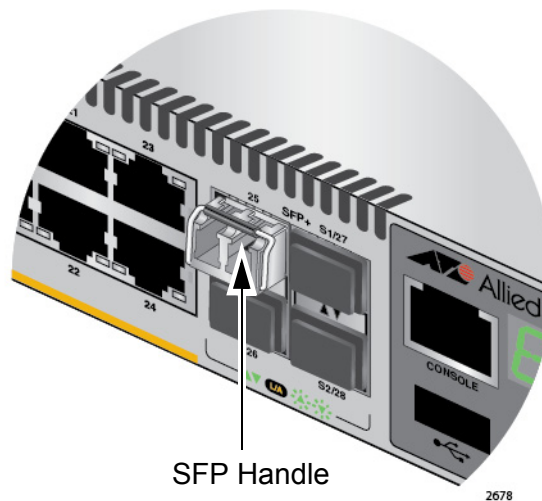

Figure 75. Positioning the SFP or SFP+ Handle in the Upright Position
6. Verify the position of the handle on the SFP transceiver. If the transceiver is in a top slot, the handle should be in the upright position, as shown in Figure 75 on page 126. If the transceiver is in a bottom slot, the handle should be in the down position.